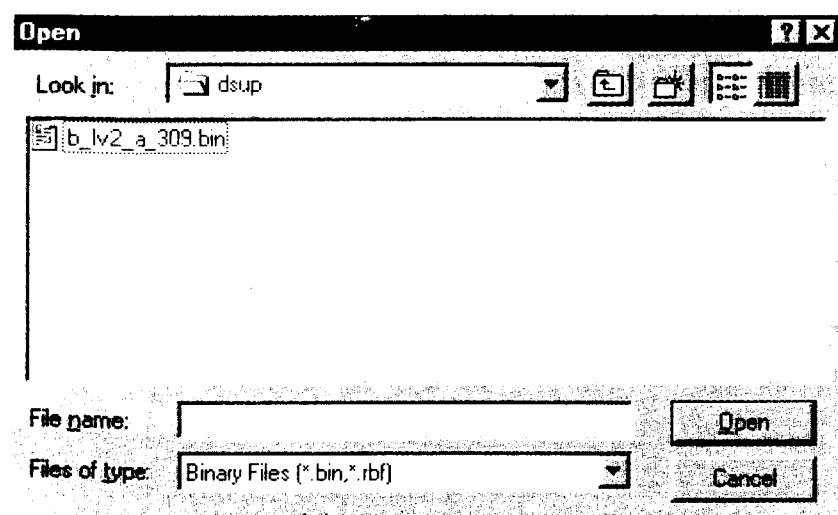

Figure 4: Selecting software version file to be uploaded to the projector.
- 3) Press the **Browse...**-button in the SUP window. Select the file to be uploaded to the projector and press **Open** (Figure 4). In this example the file is named "B_LV2_A_309.BIN".